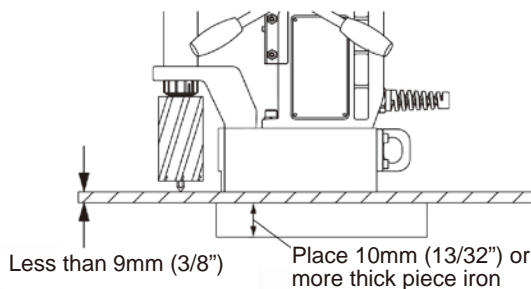

Fig. 3
- If the work piece is less than 9mm thick, you must use an iron back-up plate that is more than 10 mm in thickness. The surface area of the iron back-up plate must be greater than the surface area of the magnet. An appropriate back-up plate is necessary to boost the holding power of the Magnet. (Fig.3)